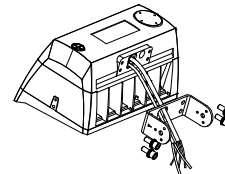

Figure 3
2. Yoke Mounting (YM)
STEP 1: Put the input wire of the light across the bracket (FIGURE 3)